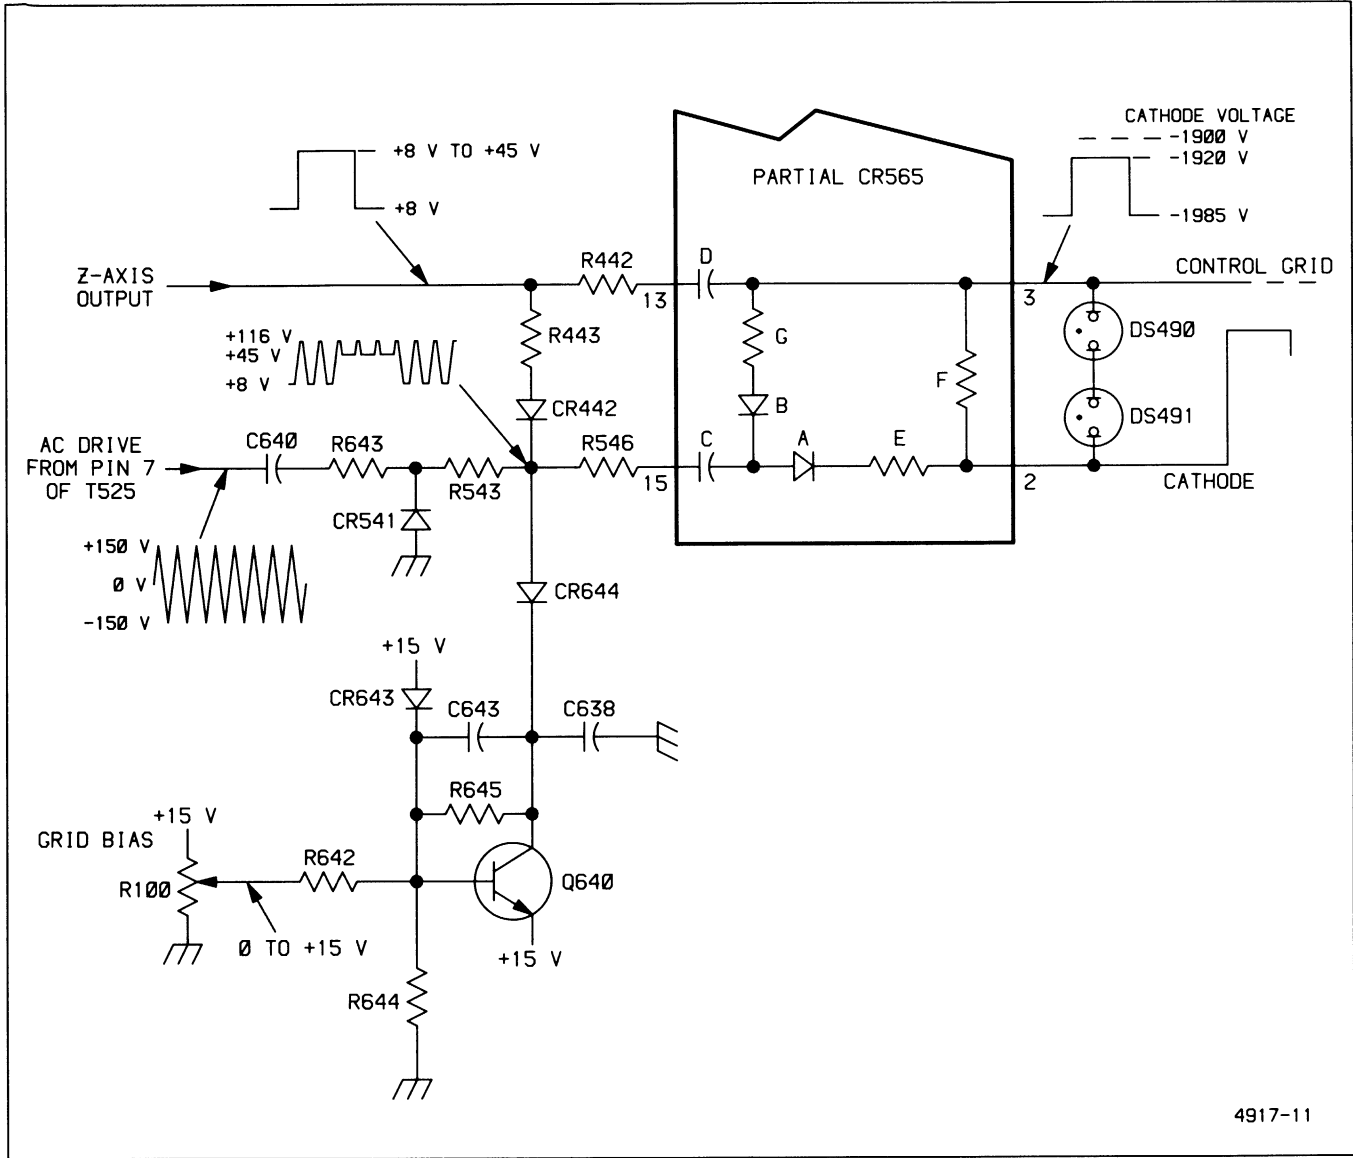

Figure 3-10. DC Restorer.
The DC Restorer provides crt control-grid bias and couples both the dc and the low-frequency components of the Z-Axis drive signal to the crt control grid. This circuit allows the Z-Axis Amplifier to control the display intensity by coupling the low-voltage Z-Axis drive signal (VZ) to the elevated crt control grid potential (about -1.9 kV). Refer to Figure 3-10 for the following description.
**DC RESTORATION.** The DC Restorer circuit in the High-Voltage Module is referenced to the crt cathode voltage via a connection within CR565. Capacitor C (labeling shown in Figure 3-10), connected to pin 15 of CR565, initially charges to a level determined by the difference between the Z-Axis signal level and the crt cathode potential. The Z-Axis signal sets the level on the positive plate of capacitor C through R443, CR442, and R546; the level